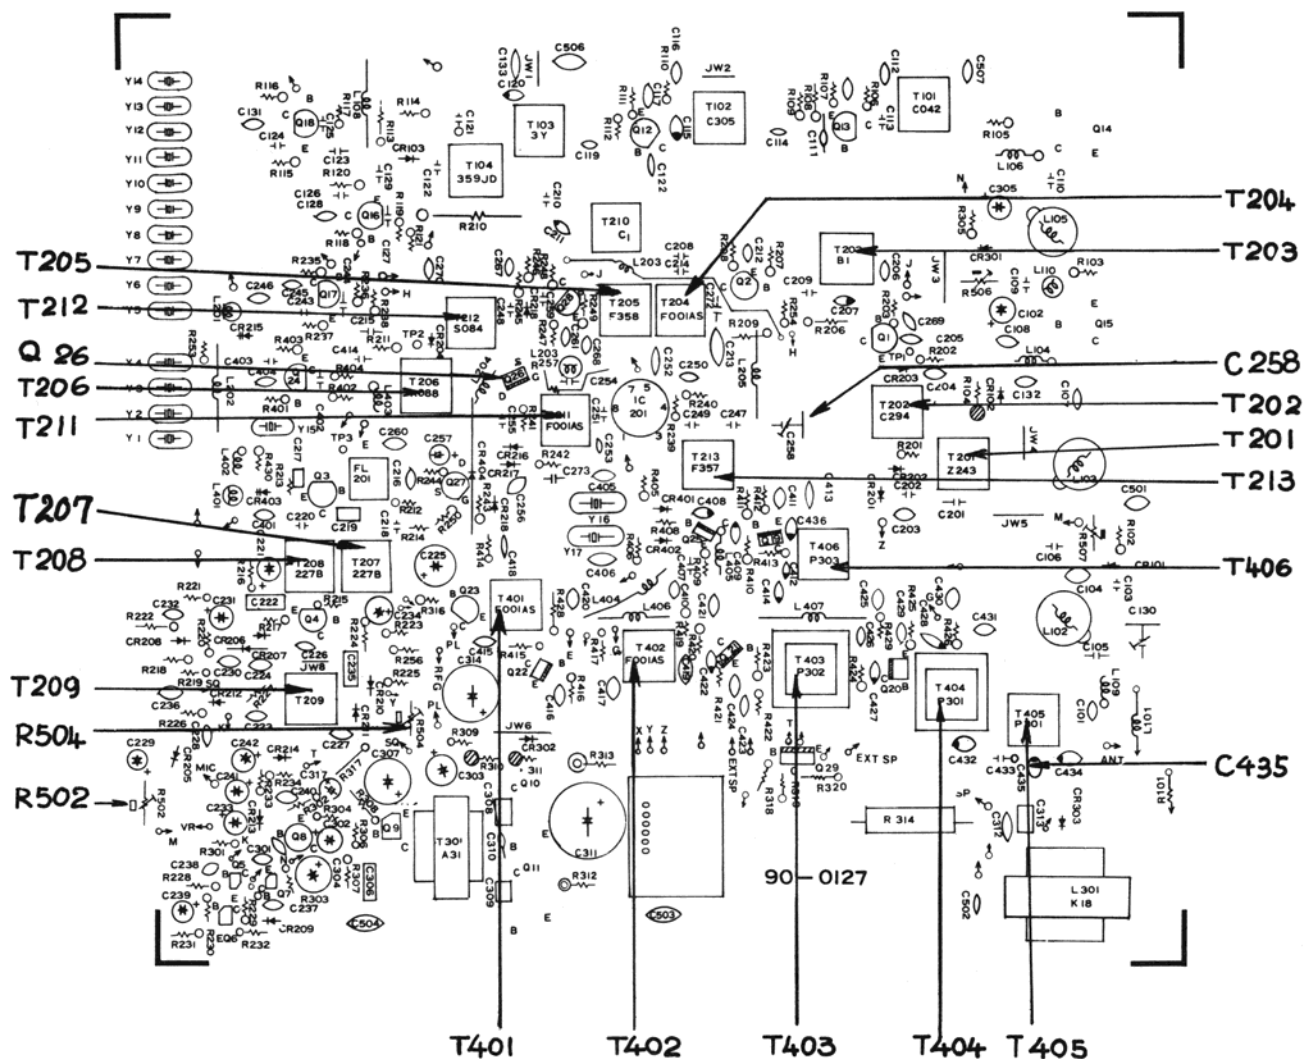

Figure 4–2 Receiver Adjustment Locations
4.4 TRANSMITTER ADJUSTMENT (See Figure 4–1 for adjustment locations)